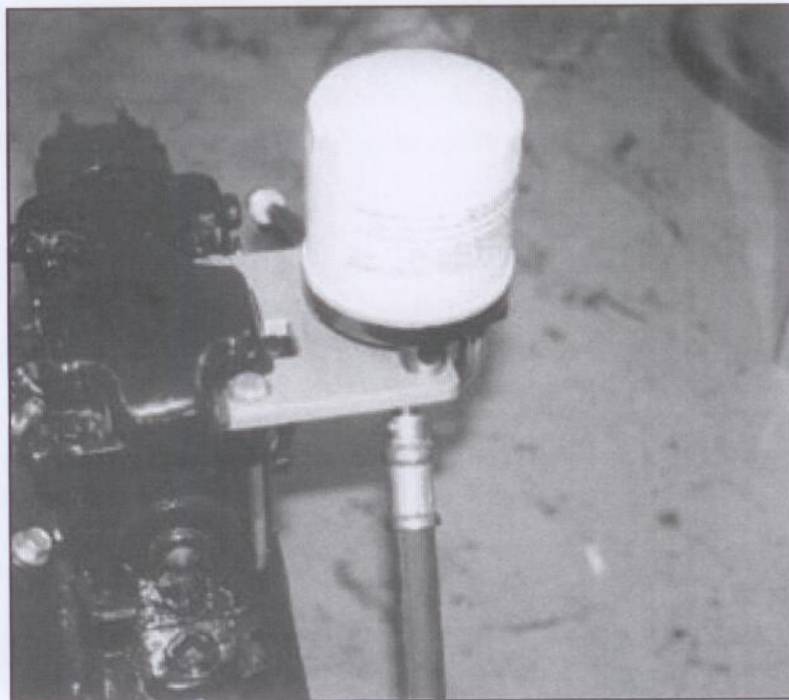

FIGURE C1
3. Remove the oil lines from the oil filter housing. Remove the oil filter housing from its bracket. Attach the supplied oil filter bracket to the port side outboard exhaust riser bolts. Attach the oil filter housing to the bracket with the tabs on the underside of the bracket with the filter side up. Pull the oil line out from beside the computer box. Run the line back to the relocated oil filter housing. Attach the oil line from the oil cooler. Refer to figure C1.